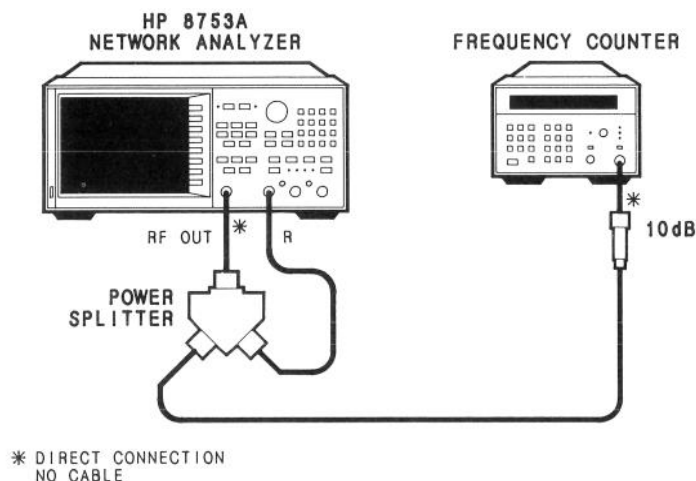

Figure 1. Frequency Range and Accuracy Test Setup
1. Connect the equipment as shown in Figure 1.